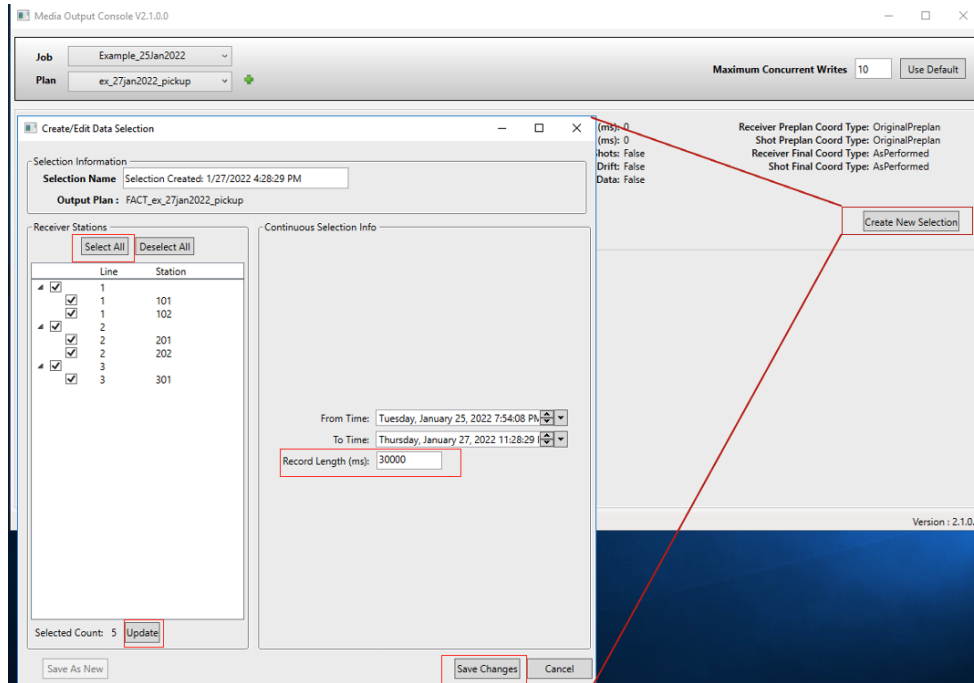

Figure 4-9 Create New Selection setup.
12. Click on *Create New Selection* (see Fig 4-9).
13. Click 'Select All' and then 'Update' to select all of the stations in the line. *Selected Station Count should match the number of recorded stations (see Fig 4-9).*
14. Set Record Trace length (30000 ms) and click Save Changes (see Fig 4-9).